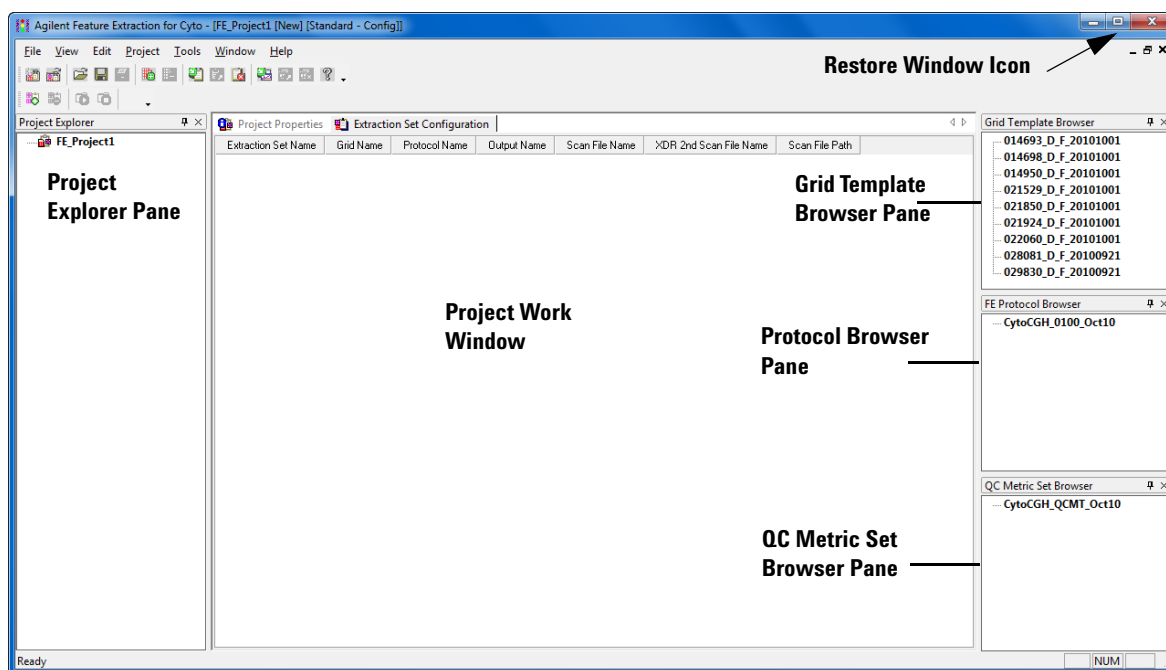

Figure 103 FE Standard Project Configuration window – default
- Click the **Restore Window** icon for the Project Work Window. See Figure 103.